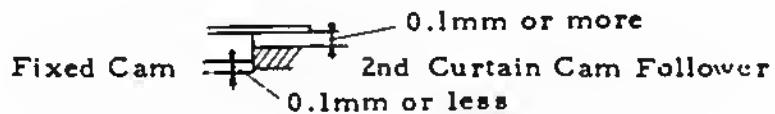

Fig. 24
2) The heights of the Follower and fixed Cam are as shown in Fig. 24. For adjustment, use Washers (X32-502320 to 1) x n, (X98-020206), and chose a suitable Lever. Fig. 24